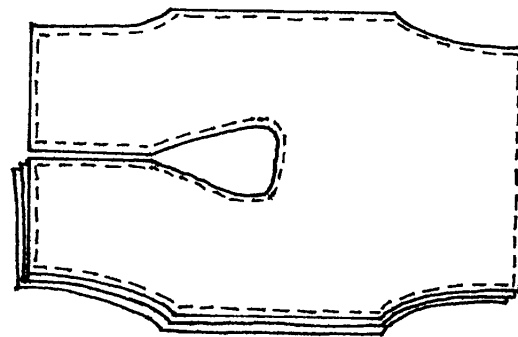

Fig. 2
5. Hand baste through all thicknesses all the seams of the patching of the pieced top. Then hand baste around the edges of the entire jacket shape (Fig. 2).